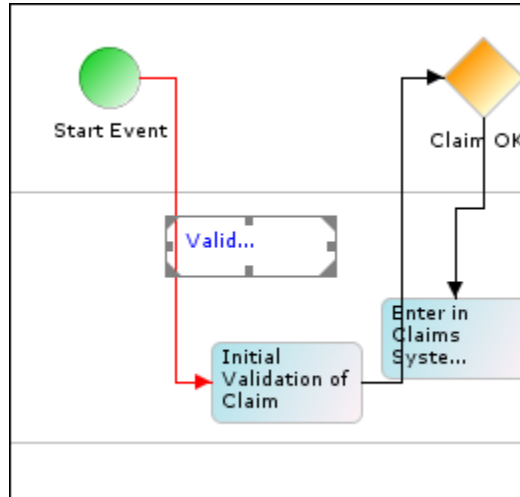

Figure 38: Default position of a Control Flow Label
2. Click **OK**. The Label is displayed at the default position (see Figure 38).